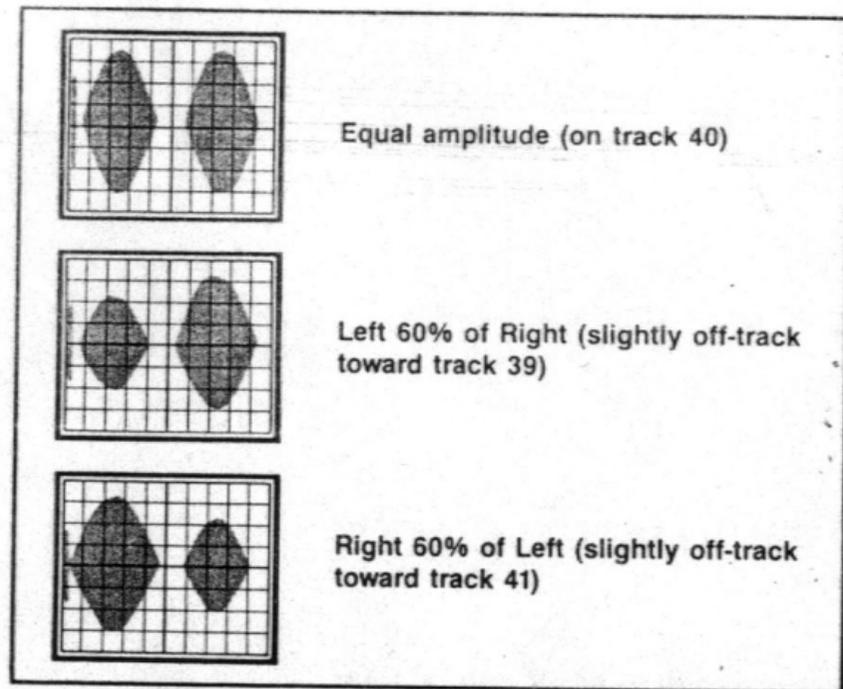
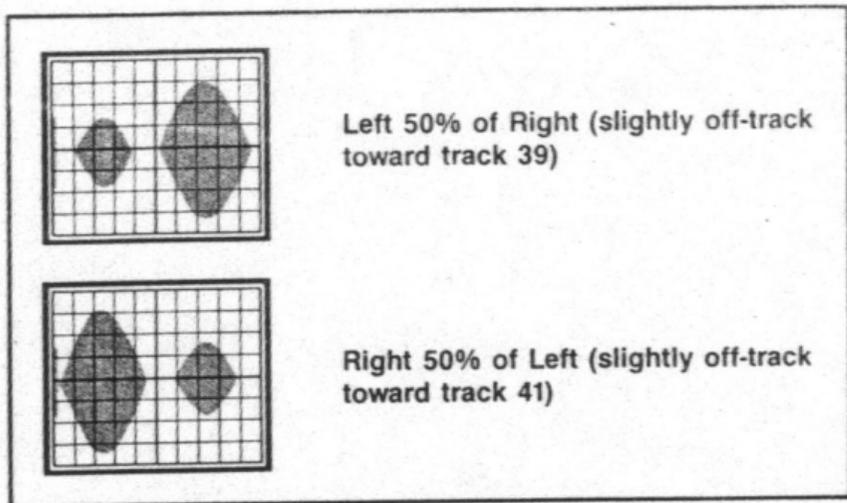

Figure 1. No Head Radial Alignment Necessary
Figure 2. Head Radial Alignment Necessary
5. The lobes displayed should be within 60% amplitude of each other (see Figure 1). If they are, skip to step 9. If you are aligning a two-sided drive, check both heads. If the lobes do not fall within specification (as in Figure 2, for example), continue to step 6.